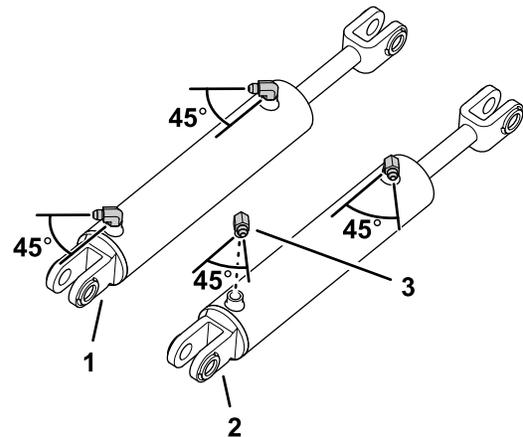

Figure 7
2. Assemble the 90° fittings into the extend and retract ports of the lift cylinders (Figure 7).
3. Tighten the 90° fittings at a 45° angle to the body of the cylinders as shown in Figure 7.